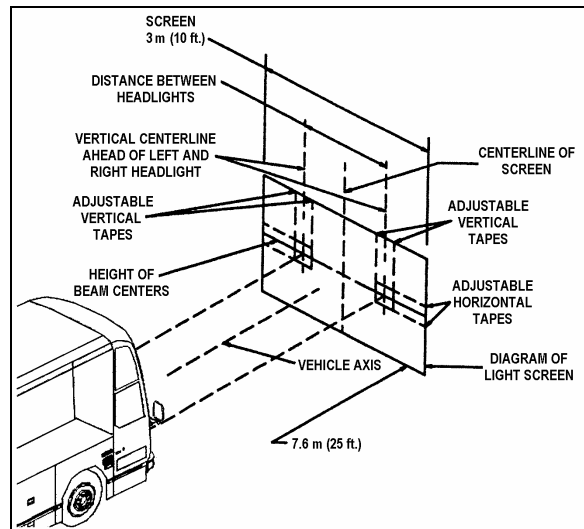

FIGURE 46: A LIGNMENT OF HEADLIGHT AIMING SCREEN 06502
3. The headlight centerlines shall be spaced either side of the fixed centerline on the screen by $\frac{1}{2}$ the lateral distance between the light source centers of the pertinent headlights. The horizontal tapes should be located on the screen at the upper and lower limits called for in the specification with reference to the height of beam centers and the plane on which the vehicle rests (Figure 46).